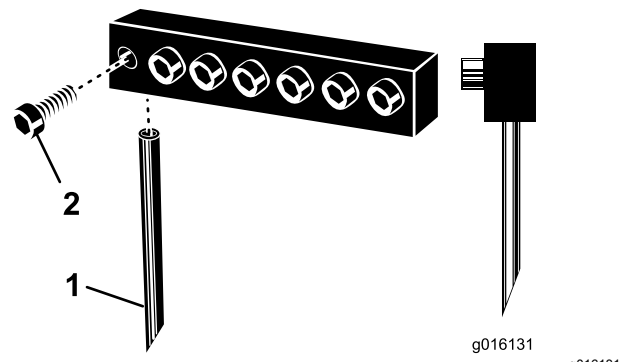

Figure 30
Note: Position hollow coring tines with the ejection slot to the rear. Position solid tines with the tine tip angle facing the machine (Figure 30).
3. Loosen the clamping bolts and remove the previously used tines (Figure 30).